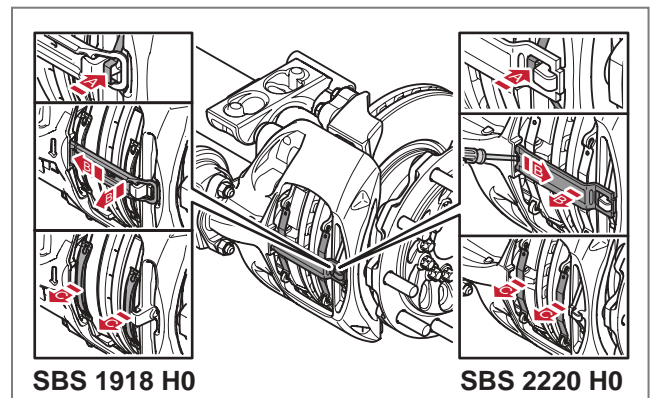

Fig. 38 - Removing the brake pad components
- Remove the pad retainer by first pushing and holding down the spring bracket (A), see ► Fig. 38. Whilst the spring bracket (A) is held down, slide out and remove the pad retainer (B). A tool can be used to help slide out the pad retainer if unable to do so by hand. Continue to remove the two pad springs (C).